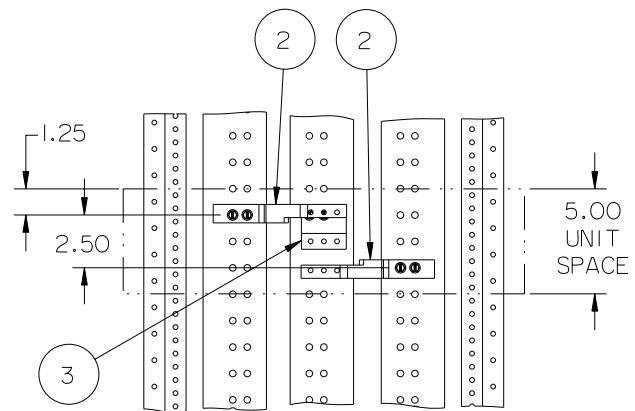
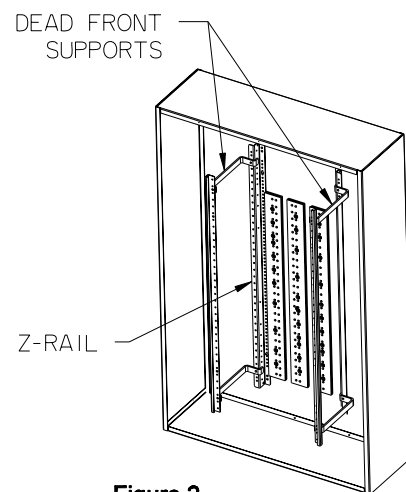

Figure 4
Figure 2
5. Reference fig. 4 - The first items to be installed are the line straps (items 2 and 3). Locate two 0.228" diameter holes on the B ϕ of the section bus, 1-1/4" down from the top of the 5.0" unit space selected. Insert two 1/4-20 thread forming screws (see the mounting hardware kit for the proper length) through the two holes in the B strap (item 3) and then into the 0.228" diameter holes on the B ϕ bus and tighten. Repeat this step to install the A ϕ strap (item 2) onto the A ϕ bus. To install the C ϕ strap (item 2), locate two 0.228" diameter holes on the C ϕ bus 2.50" below the mounting screws of the A ϕ and B ϕ straps. Insert two more of the 1/4-20 thread forming screws through the two holes in the strap and then into the 0.228" diameter holes in the C ϕ section bus. Torque all screws to the values specified on the rear of the dead front.
3. Reference fig. 2 - To mount a QJ Breaker, 5" of empty unit space is required. To locate the mounting position, measure from the top dead front support to the top of the empty unit space filler on the dead front. Transfer this dimension from the dead front support along the Z-rail and mark. This will be the unit space as shown on fig. 4. After marking the Z-rail, remove the dead front.